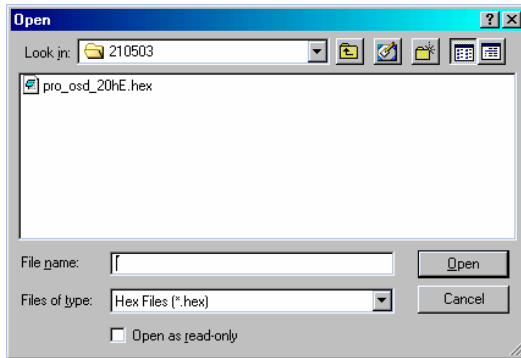

Figure 28 The Open box
2. From the **File** menu, choose **Open**. The **Open** box appears. See Figure 28.